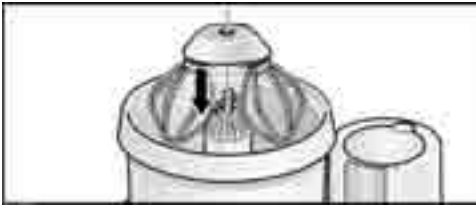

Figure 6
4. Place and engage the twin beating whisk assembly on the driveshaft of the mixing bowl as shown in figure 6. Make sure that the toothed wheel interlocks with the drive shaft.